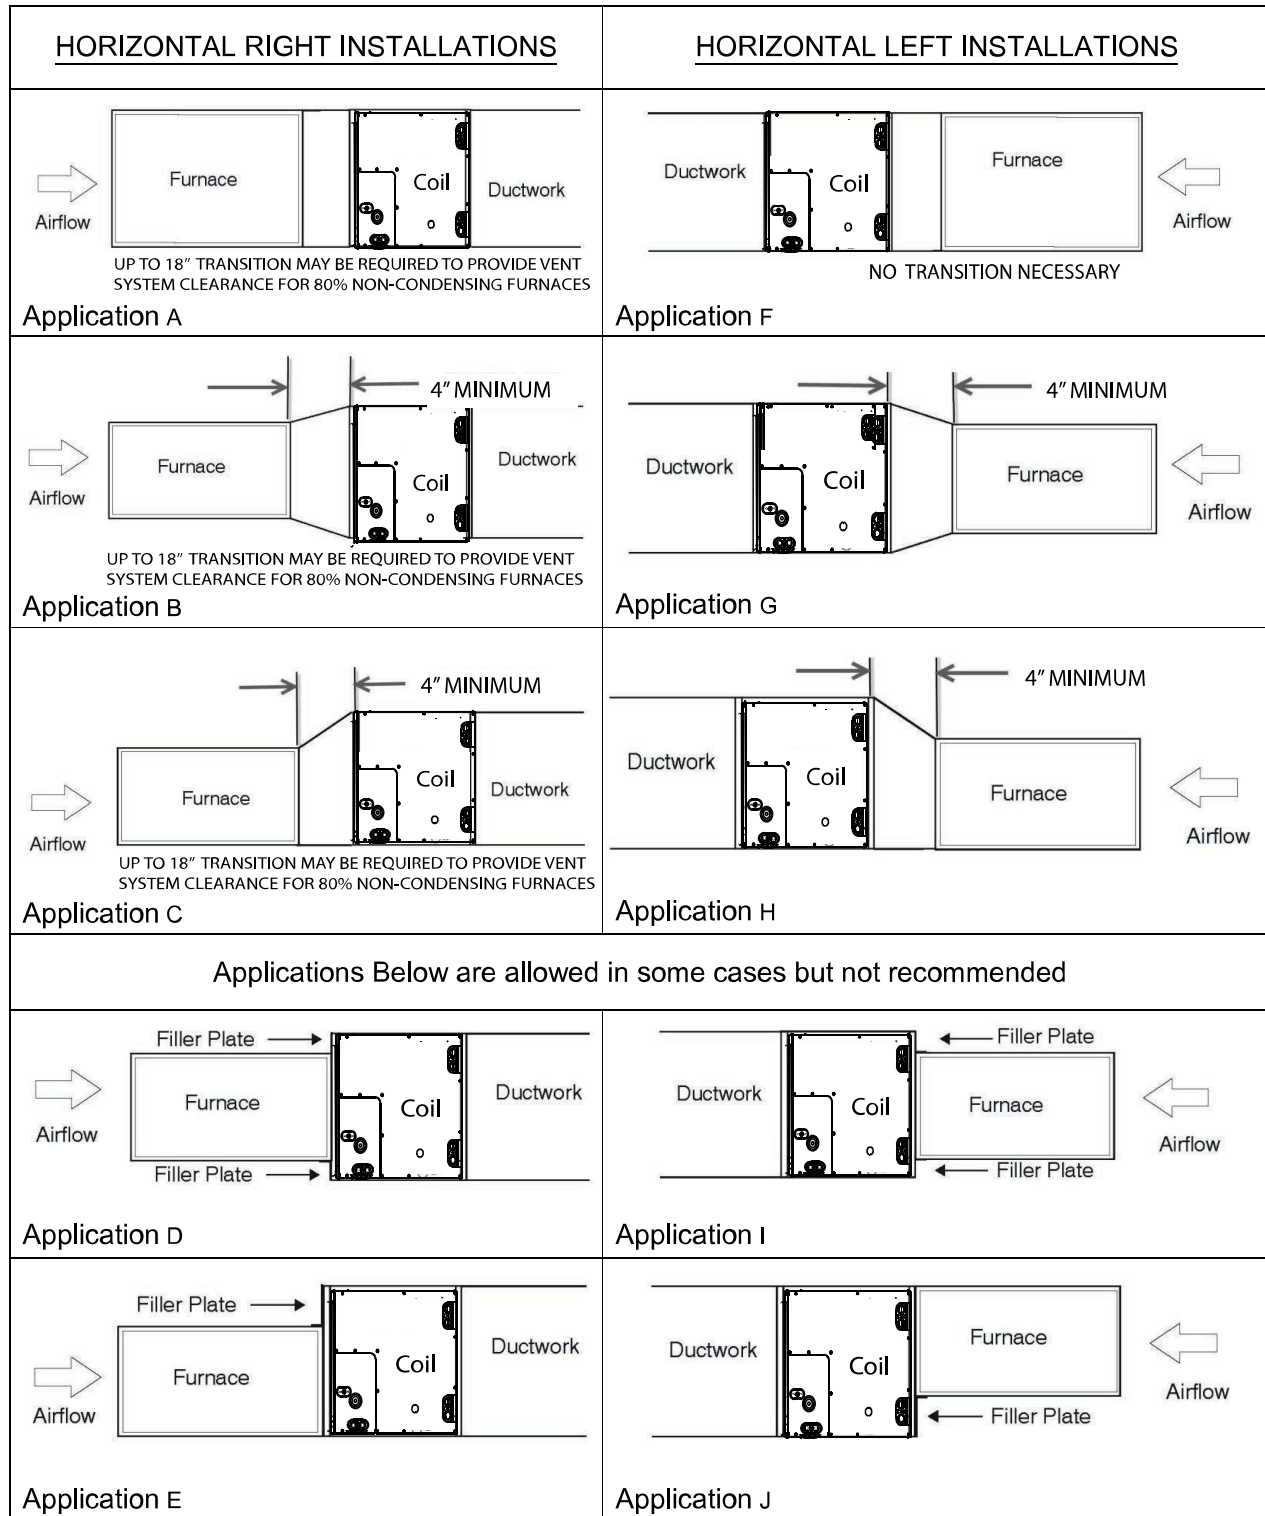

Fig. 8 – Horizontal Installation Applications
The unit can be installed on a work platform, secured to roof truss in attic, suspended from hangers on floor joists in crawl space, or installed on blocks. It is designed to allow airflow in either direction, to mate with horizontal-left or horizontal-right furnace installations. Ensure coil cabinet is level side to side and front to back. It is allowable to add up to 1/2-in. additional slope over length and depth of coil cabinet in the direction of drain pan connection (Fig. 8).
6. If coil is wider than furnace, use a 4-in minimum transition. (Up to 18-in. transition may be required to provide vent system clearance for 80% non-condensing furnaces) (Fig. 8).
5. If coil is wider than furnace, use 4-in. minimum transition and self tapping screws to attach furnace (Fig. 8).